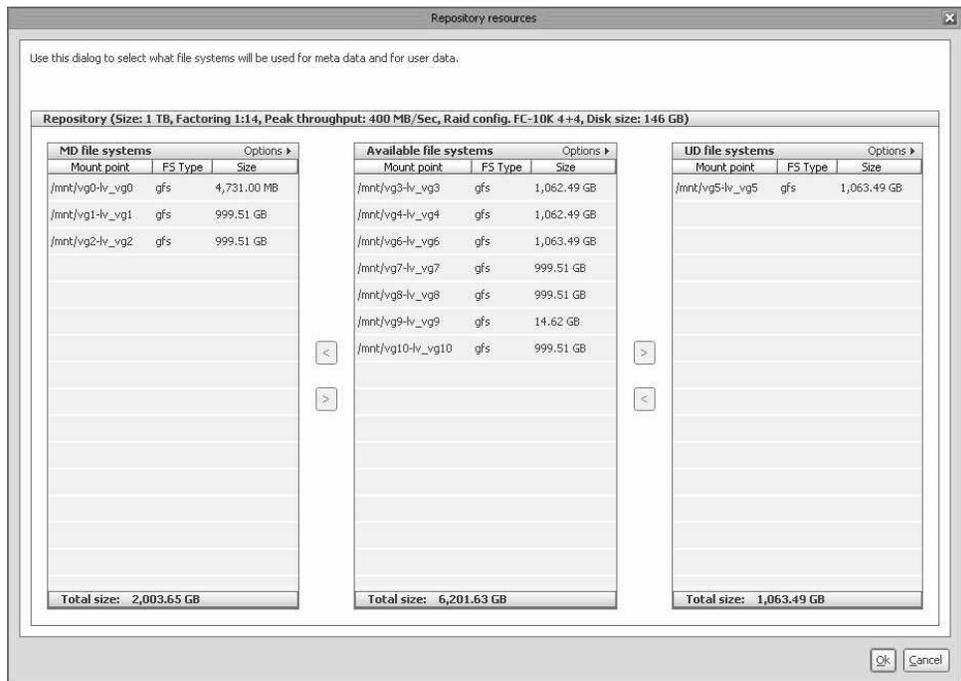

Figure 29. “Repository resources” window
9. Click **Next**. The “Repository resources” window opens. See Figure 29.